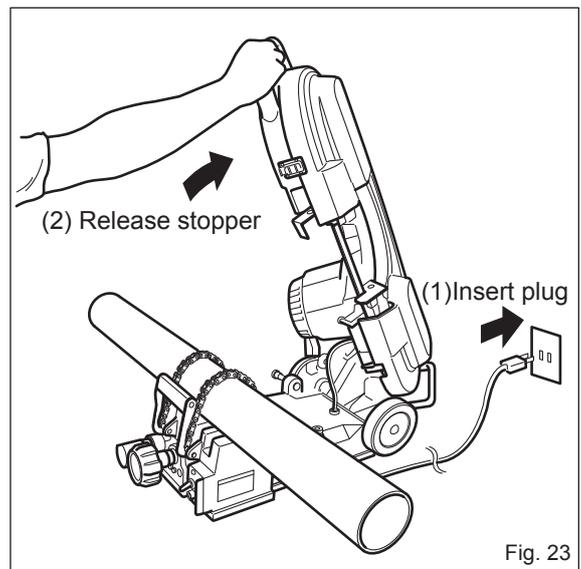

Fig. 23
1. Cutting (Figs. 23 - 25)
(1) Insert the plug into the outlet. (Fig 23)
(2) Hold the handle and lift the frame to its highest point and release the stopper. (Fig. 23)